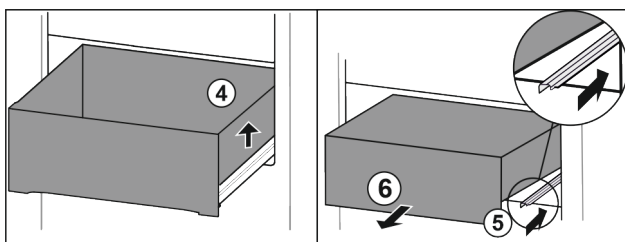

Fig. 18
- ▶ Lift drawer on the right. Fig. 18 (4)
- ▶ Slide in right rail. Fig. 18 (5)
- ▶ Remove drawer to the front. Fig. 18 (6)